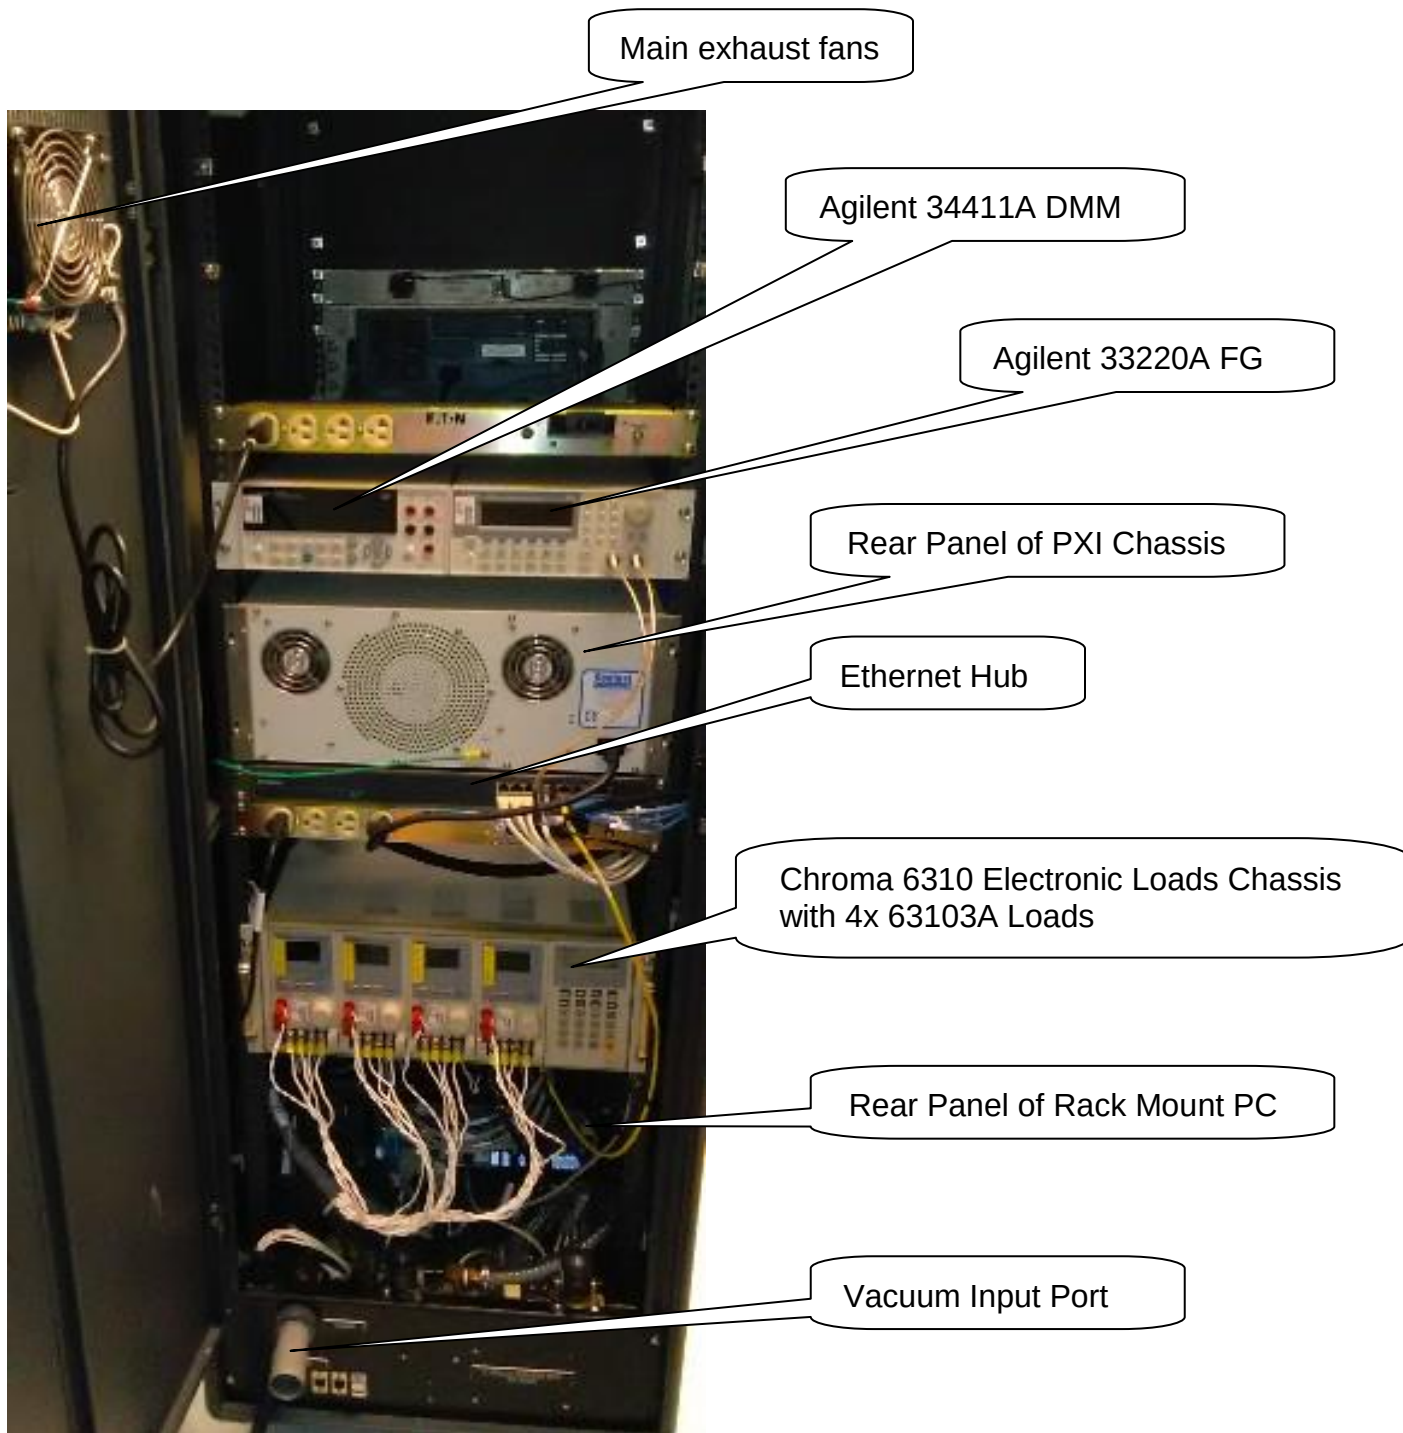

Figure 2
3.8. Calibrate the 2 PXI-6229 Multifunction DAQ modules to the manufacturer's specifications. Use National Instruments Calibration Executive software. Configure the Calibration Executive software to use the National Instruments Calibration Hardware Adaptors, built in to the GTS Calibration Fixture, and the PXI-4071 DMM. When the Calibration Executive stops and prompts the operator to connect and swap cables, select the cable using the Cable Select Switch on the Calibration Fixture (see Figure 2). An appropriate voltage source and frequency counter will have to be supplied by the Calibration Lab. These instruments should be compatible with the Calibration Executive software.